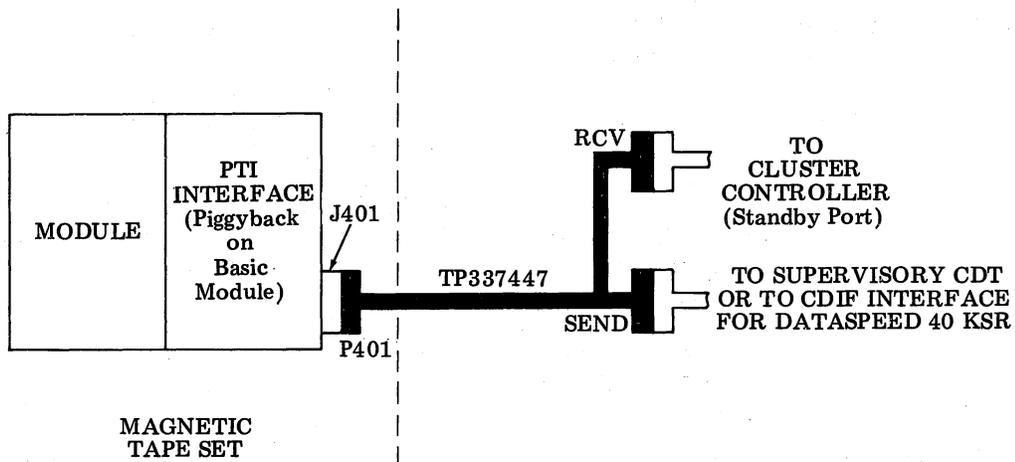

Figure 15 - Magnetic Tape Set Interfaced to Cluster Controller and Supervisory CDT
(2) Plug the cable connector into the corresponding tape set connector on the adjunct terminal.
3.49 This connection is achieved as shown in Figure 15. The procedure is as follows: